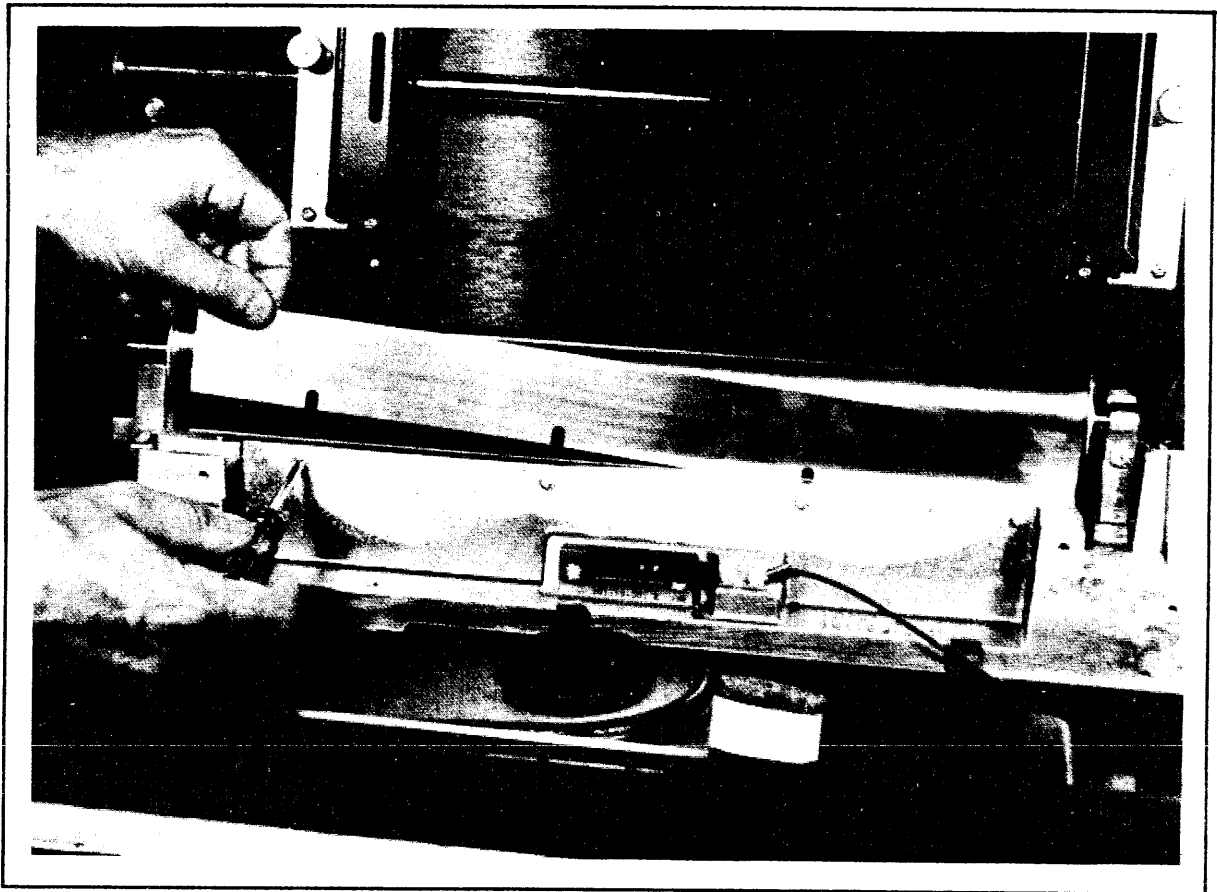

Figure 67 Replacing Paper Ironer
f. Carefully align slots of a new paper ironer with the four retaining screws (figure 67), and insert it between the frame and the retainer plate until slots bottom-out against the screws.